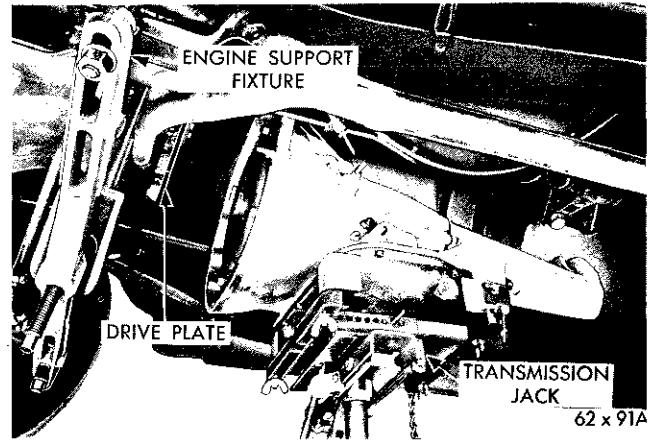

Fig. 48—Removing or Installing Transmission and Converter Assembly
(17) Remove the engine rear mount insulator to extension housing bolts.
(18) Install engine support fixture, Tool C-3487 and raise the engine slightly.
(19) Remove the crossmember attaching bolts and remove the crossmember.
(20) Place a transmission service jack under the transmission to support the assembly.
(21) Attach a small "C" clamp to the edge of the converter housing to hold the converter in place during the removal of the transmission.
(22) Remove the converter housing retaining bolts. Carefully work the transmission rearward off the engine block dowels and disengage the converter hub from the end of the crankshaft (Fig. 48).
(23) Lower the transmission jack and remove the transmission and converter assembly.
(24) To remove the converter assembly, remove the "C" clamp from the edge of the housing, then carefully slide the assembly out of the transmission.